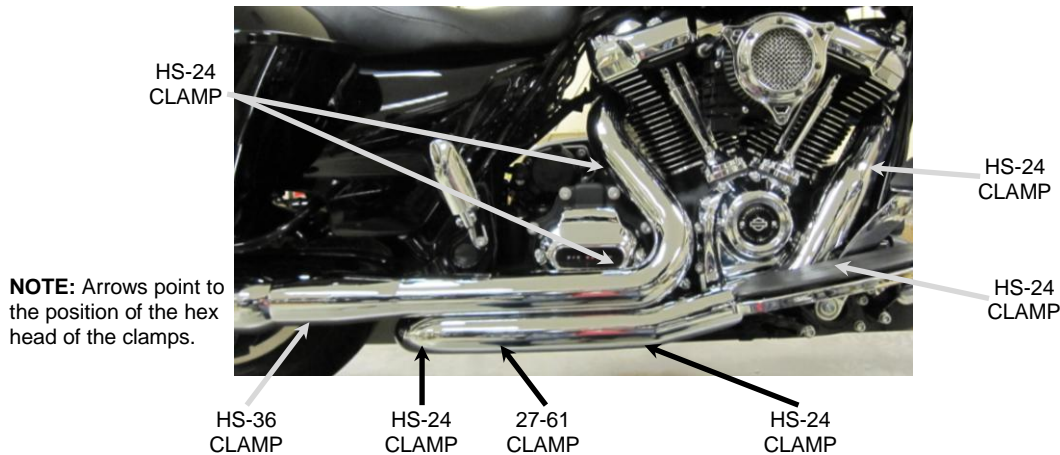

FIGURE 6
21. Remove the heatshields and hose clamps from packaging. Unscrew the hose clamps and feed the tail end of the clamps through the clips on the inside of the heatshield so the screws are accessible with a screwdriver once the heatshield is installed. The large HS-36 hose clamp goes on the rear clip on the rear heatshield. See **FIGURE 6 & 7** for proper positioning of the clamps on the heatshields. (**NOTE: The arrows point to the positioning of the hex head of the clamps.** The hex head of the clamps should be accessible for tightening but not visible when the heatshields are mounted to the pipes.)
22. Install the right rear heatshield over the rear headpipe. (Hint: Spread the hose clamps apart slightly to make it easier to slide them over the headpipes.) Align the heatshield with the headpipe and then snug the clamps but **DO NOT TIGHTEN** at this time. See **FIGURE 6**.
23. Install the right front heatshield over the right front headpipe. (Hint: Spread the hose clamps apart slightly to make it easier to slide them over the headpipes.) Align the heatshield with the headpipe and then snug the clamps but **DO NOT TIGHTEN** at this time. See **FIGURE 6**.